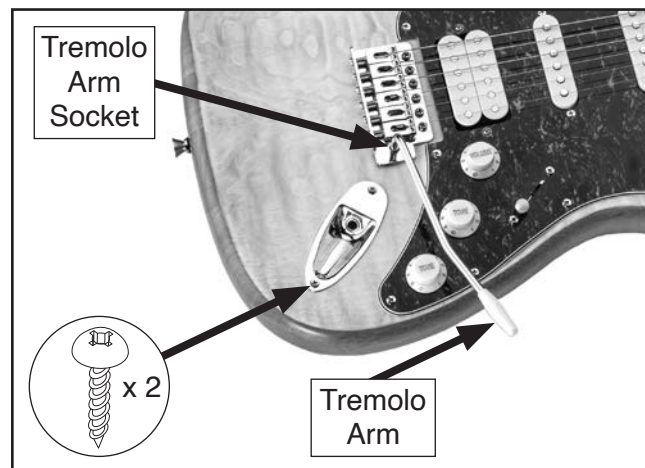

Figure 14. Output jack and tremolo arm installed.
10. Screw tremolo arm into tremolo arm socket, as shown in **Figure 14**.
4. Secure output jack to guitar body with (2) M3 x 12 Phillips head screws (see **Figure 14**).